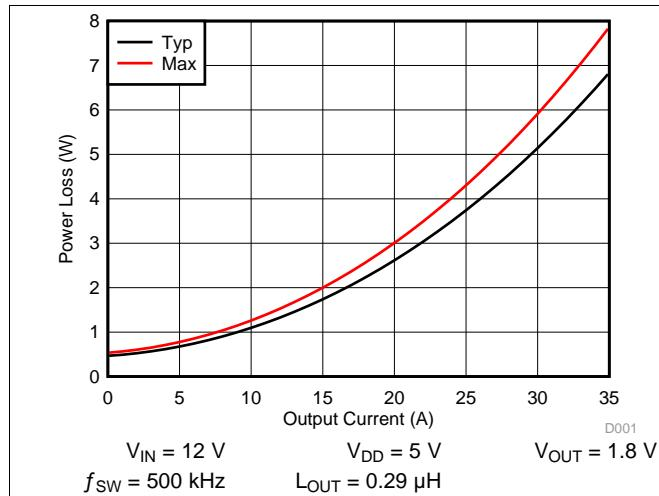

Figure 4. Power Loss vs Output Current
MOSFET-centric parameters such as $R_{DS(ON)}$ and Q_{gd} are primarily needed by engineers to estimate the loss generated by the devices. In an effort to simplify the design process for engineers, Texas Instruments has provided measured power loss performance curves. Figure 4 plots the power loss of the CSD95377Q4M as a function of load current. This curve is measured by configuring and running the CSD95377Q4M as it would be in the final application (see Figure 14). The measured power loss is the CSD95377Q4M device power loss which consists of both input conversion loss and gate drive loss. Equation 1 is used to generate the power loss curve.
The power loss curve in Figure 4 is measured at the maximum recommended junction temperature of $T_J = 125^\circ\text{C}$ under isothermal test conditions.
- Typical power loss at 25 A = 3.74 W (Figure 4)